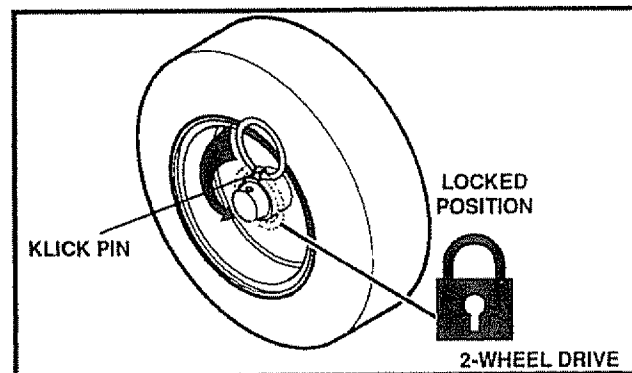

FIG. 12A
- The left hand wheel is secured to the axle with a klick pin (See Fig. 12A). This unit was shipped with this klick pin in the locked (through wheel hole) position.